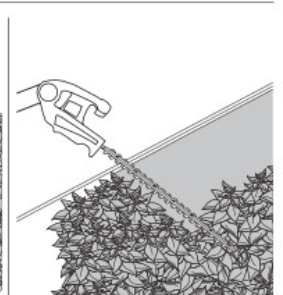

Fig.9
- In order to obtain flat sides, cut upwards with the growth. Younger stems move outwards when the blade cuts downwards, causing shallow patches in the hedge. (FIG.9)